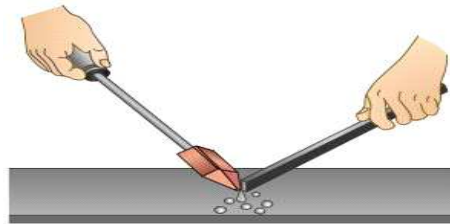

Figure 3: Joining process
- b) A Mechanical engineering student in Machakos University was given a project to joining components together as shown below in figure 3, After completing the job, he realized the joint was weak .